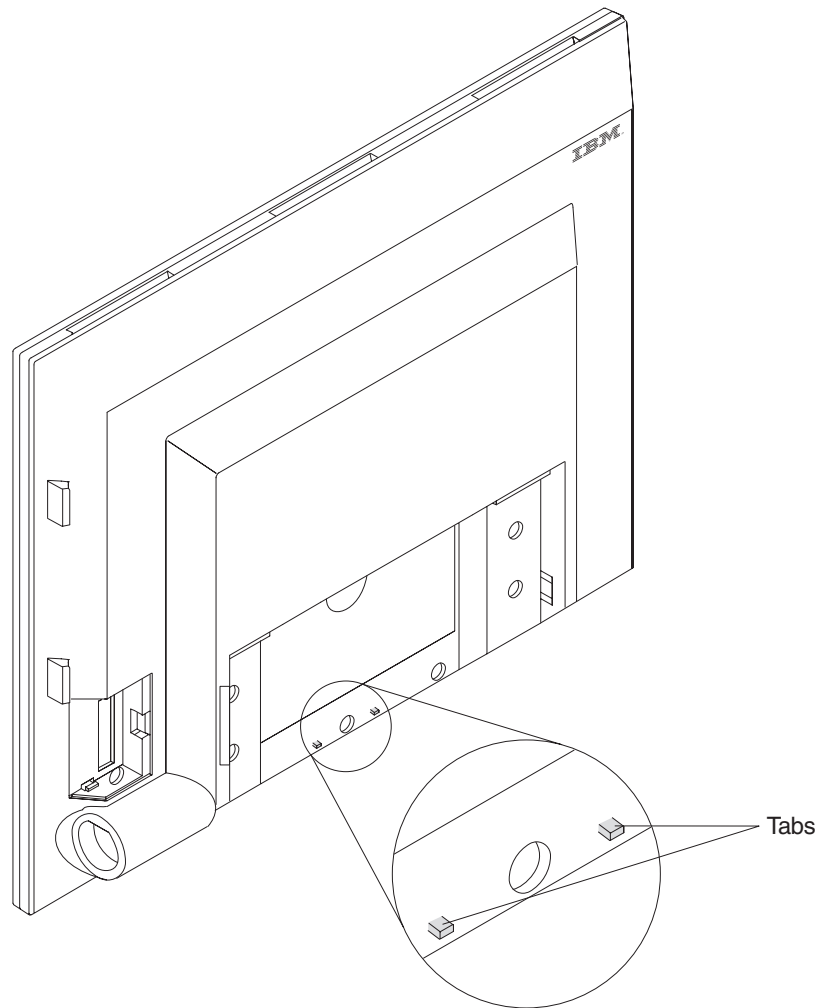

Figure 2-36. Tabs for attaching the pointing device
1. Before you begin, locate the tabs for the pointing device on the rear of the 4820 (see Figure 2-36).